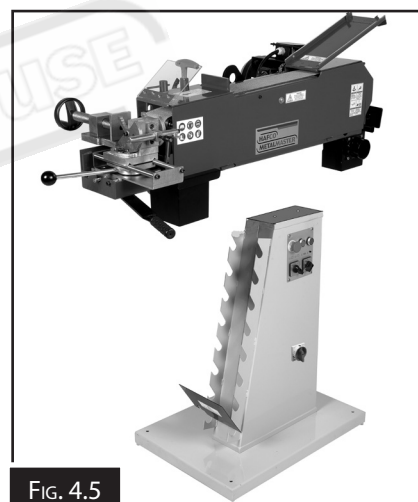

FIG. 4.5
5. Lift the machine chassis onto the stand. Put the intermediate plate between the pipe notcher and the stand before the screws are inserted then tighten. (Fig. 4.5)